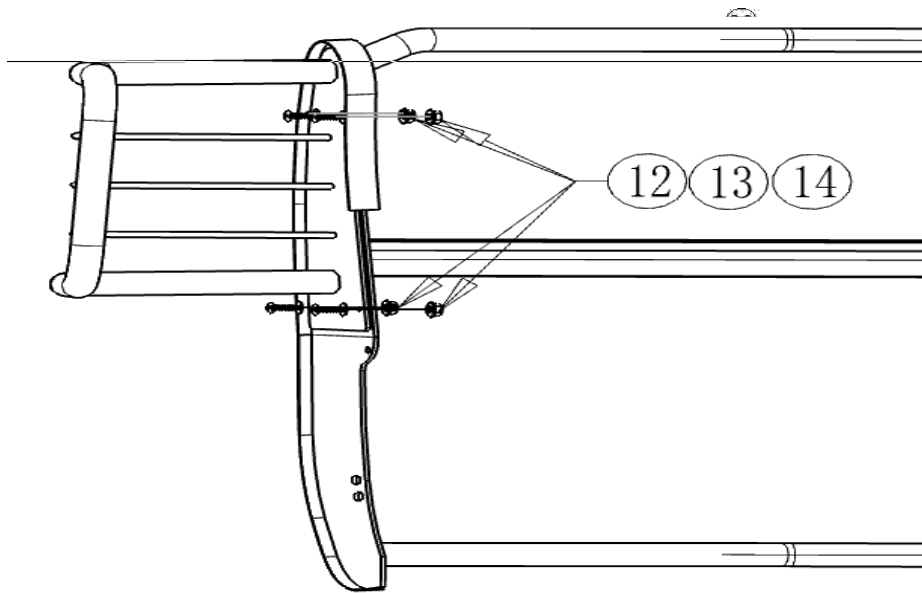

Figure 11-1
11. The Grille Guard is assembled using the supplied M8 hardware (Items 18-20). See **Figure 11-1**.